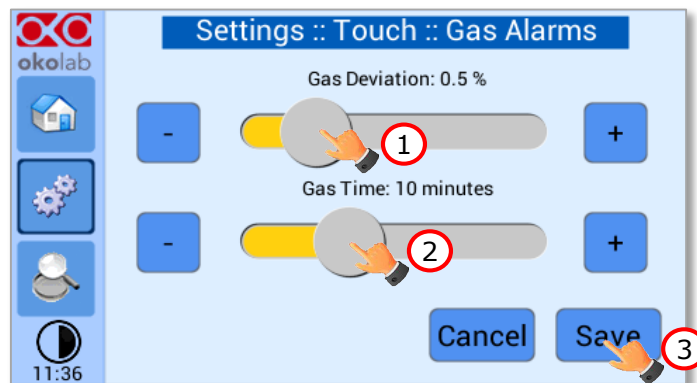

Figure 55. How to set the Deviation and Time Alarm.
2. Insert the Gas Deviation by scrolling the bar (1 in Figure 55) or pressing the +/- icons.
3. Insert the Gas Time by scrolling the bar (2 in Figure 55) or pressing the +/- icons.
4. Press Save (3 in Figure 55) to confirm.
Figure 55. In this example the following settings are displayed (valid only after the system has reached its stationary state): if the *Gas Deviation* from Setpoint is 0.5% or greater (i.e. if Setpoint gas is 5.0% and the composition reaches a value equal or less than 4.5% or equal or more than 5.5%) for a period of time equal or longer than 10 minutes (*Gas Time* set in this example) then the system triggers an Alarm.